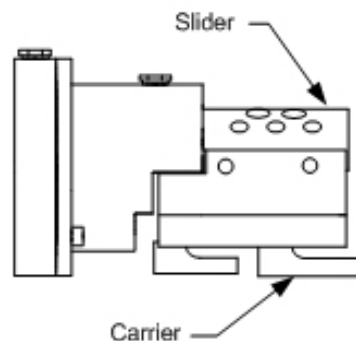

Fig. 8.16. M2CP Valve Components
8.5.7 M2CP valve (see Figure 8.16)